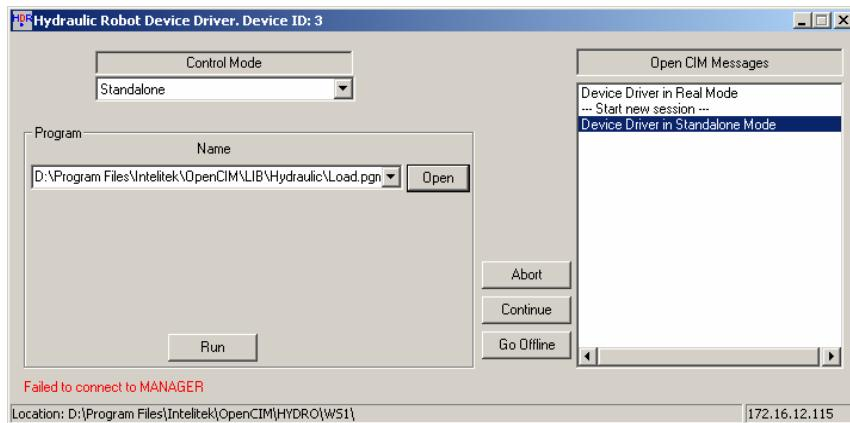

Figure 9-28: Hydraulic Robot Device Driver (Standalone)
- From the Control Mode drop down list, select **Standalone**. The window is expanded as shown in Figure 9-28: Hydraulic Robot Device Driver (Standalone).